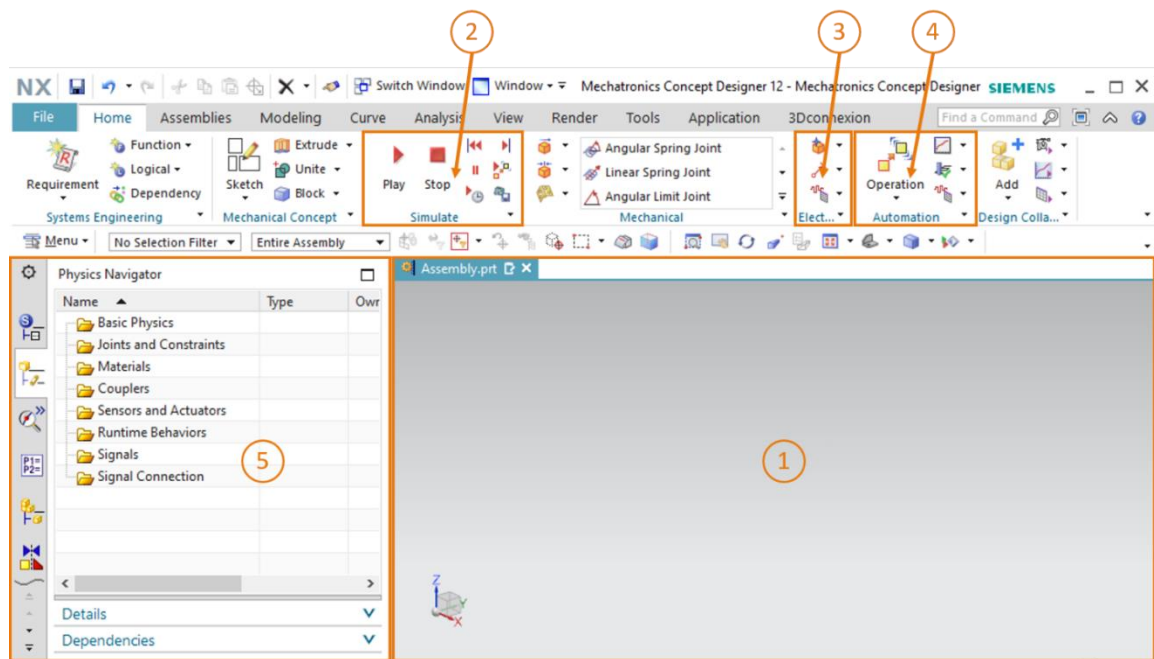

Figure 2: "Mechatronics Concept Designer" application in NX with markings for explanations of areas in the text
The workspace of Mechatronics Concept Designer is shown in Figure 2. To open this application in NX, use the familiar Command Finder at the top right of the screen to search for the **"Mechatronics Concept Designer"** application.
- The central screen (see Figure 2, area 1) contains the three-dimensional graphics window, where, you can track the functioning of your dynamic 3D model in interaction with the virtual PLC during a simulation.
- You can control the simulation of your model from a menu group located in the middle of the menu bar (see Figure 2, area 2). You will make use of these functions in Chapter 7.3.
- You will find signal properties from the field of electrics in the menu group next to the dynamic mechanical properties (see Figure 2, area 3). Here, you can create signals and tables. Several of the commands are explained briefly below.
- The signal properties from the field of automation can also be found in the menu bar of MCD (see Figure 2, area 4). Here, you will make use of the following property:
- From the Resource bar on the left part of the screen in MCD (see Figure 2, area 5), you can open the Physics Navigator tab, among others. This is where, your signals and connections will be stored.